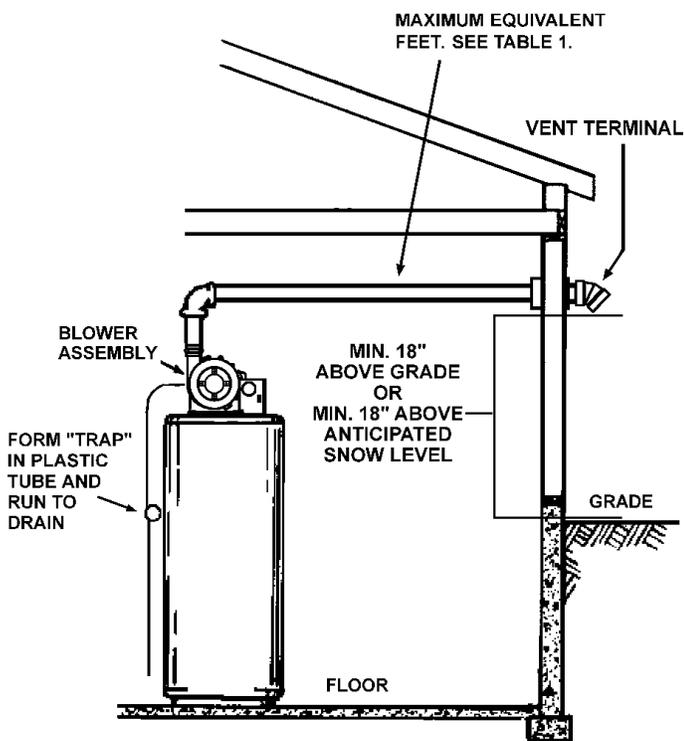

FIGURE 20
1. Vent Termination must extend a minimum of 18 inches (46 cm) above roof or 18 inches (46 cm) above the anticipated snow level to prevent blockage of the vent termination, as shown in Figures 20 and 21.
2. The venting system shall terminate at least four (4) feet (1.2 m) from or one (1) foot (30 cm) above any gable, dormer or other roof structure with building interior access; i.e., vent, window, etc.
3. The venting system shall terminate three (3) feet (91 cm) above any forced air inlet located within ten feet (3.0 m).